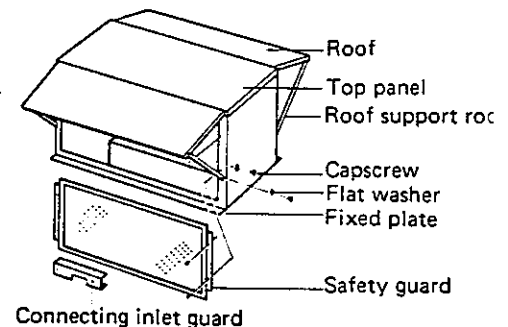

Fig. 20 Removal and placement
(See Fig. 20; other side also has two.)
- Remove the safety guard and the connecting inlet guard. (see Fig. 20)